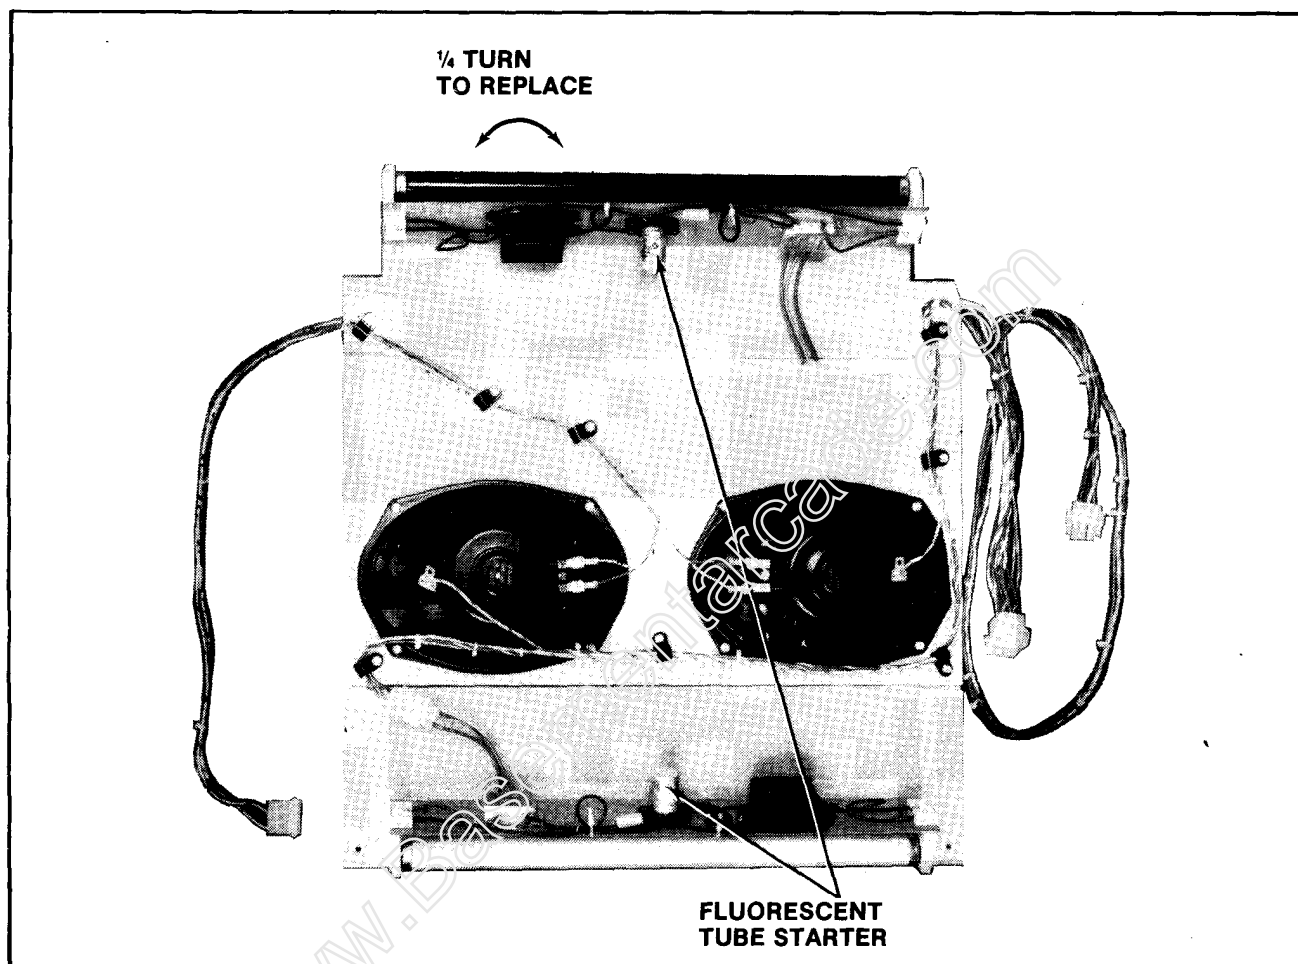
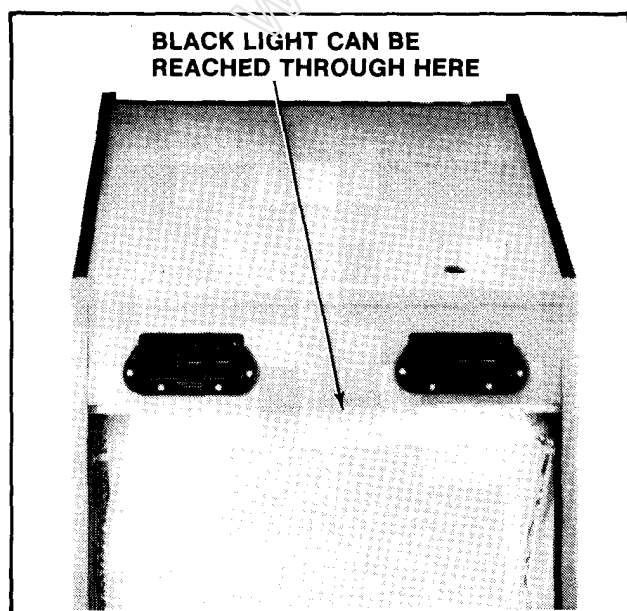

Figure 2-34 Replacing Fluorescent Tube Starter
Figure 2-35 Replacing Black Light
**WARNING:** If you drop a fluorescent tube and it breaks, IT WILL IMplode! Shattered glass can fly six (6) feet or more from the implosion. Use care when replacing any fluorescent tube.
- Replacing the fluorescent light tube starter. See Figure 2-34.
- The ultraviolet light tube may be replaced at this time by removing the rear access door of the game and the back scenery panel if necessary. See Figure 2-35. BE CAREFUL NOT TO DROP IT.
**WARNING:** If you drop an ultraviolet light tube and it breaks, IT WILL IMplode! Shattered glass can fly six (6) feet or more from the implosion. Use care when replacing any ultraviolet tube.
- Replacing the ultraviolet light tube starter. See Figure 2-34.